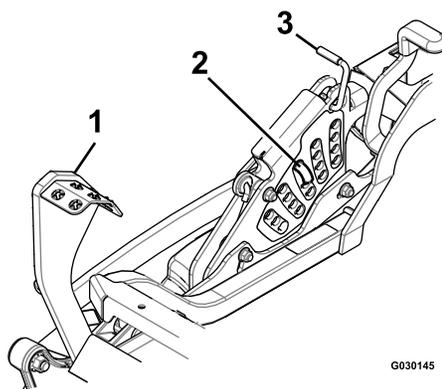

Figure 35
5. Push the foot pedal all the way forward and the deck will latch at the 5 1/2 inch (14 cm) transport position (Figure 35).